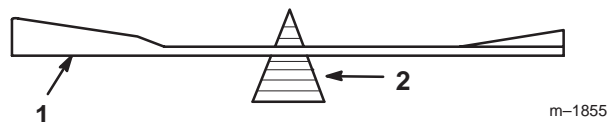
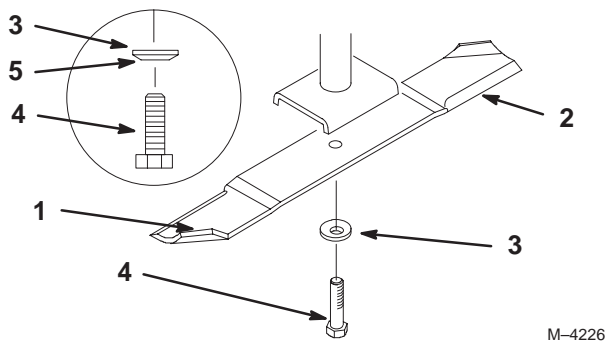

Figure 32
Figure 33
1. Hold the blade end using a rag or thickly-padded glove. Remove the blade bolt, spring disk and blade from the spindle shaft (Fig. 33).
2. Check the balance of the blade by putting it on a blade balancer (Fig. 32). If the blade stays in a horizontal position, the blade is balanced and can be used. If the blade is not balanced, file some metal off the end of the sail area only (Fig. 33). Repeat this procedure until the blade is balanced.
1. Install the blade onto the spindle shaft (Fig. 33).
2. Install the spring disk and blade bolt (Fig. 33). **Torque the blade bolt to 85–110 ft-lb (115–150 N•m).**